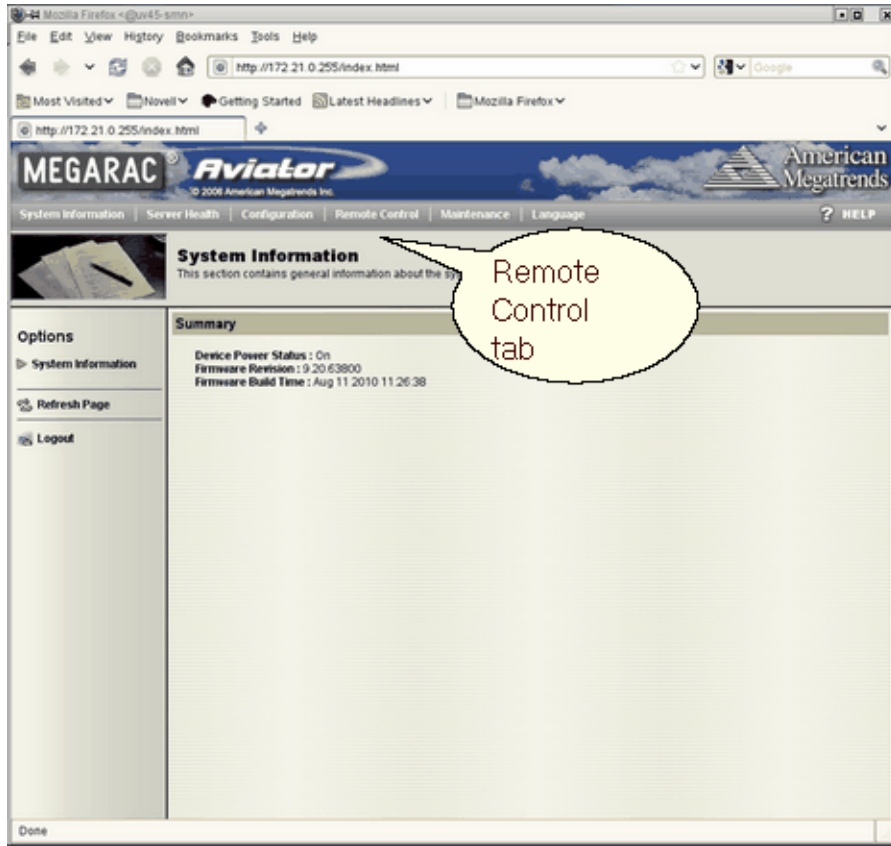

Figure 3-2 BMC System Information Screen
5. The **System Information** screen appears, as shown in Figure 3-2 on page 37. Click on the **Remote Control** tab.